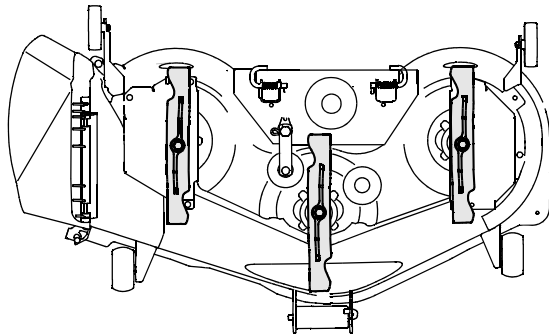

Figure 48
2. Position the mower blades so the ends of each outer blade point toward the front and the rear of the tractor (See Figure 48). Lower the tractor implement lift handle to a mid-height setting.